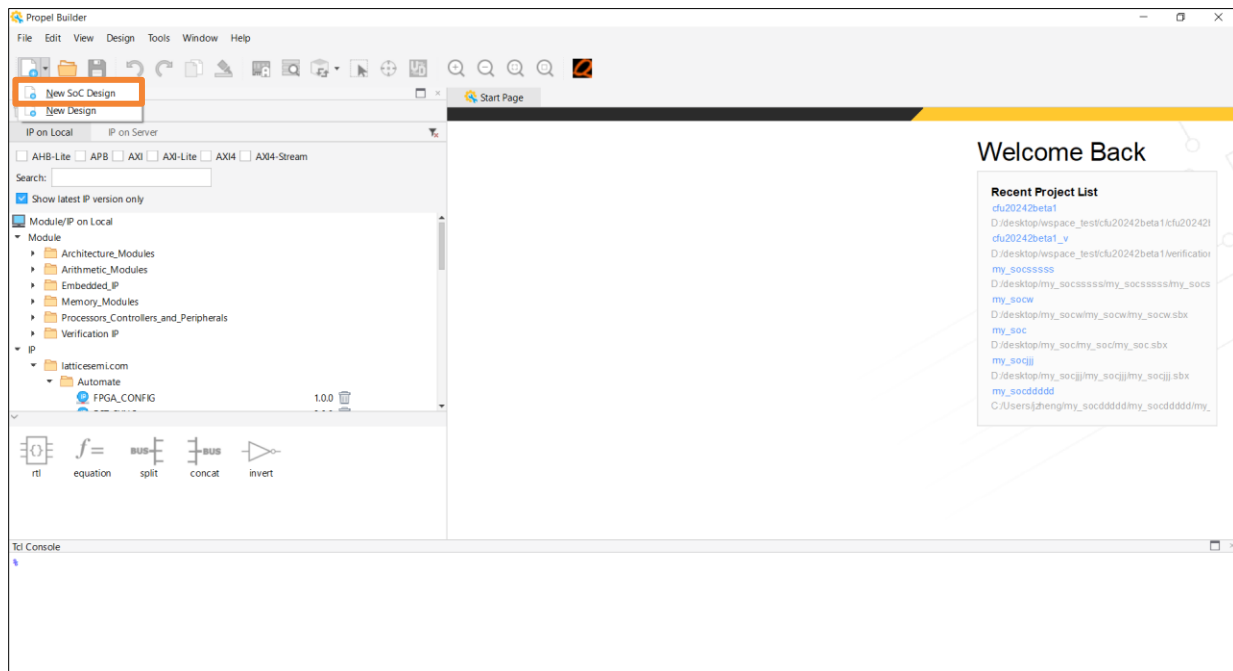
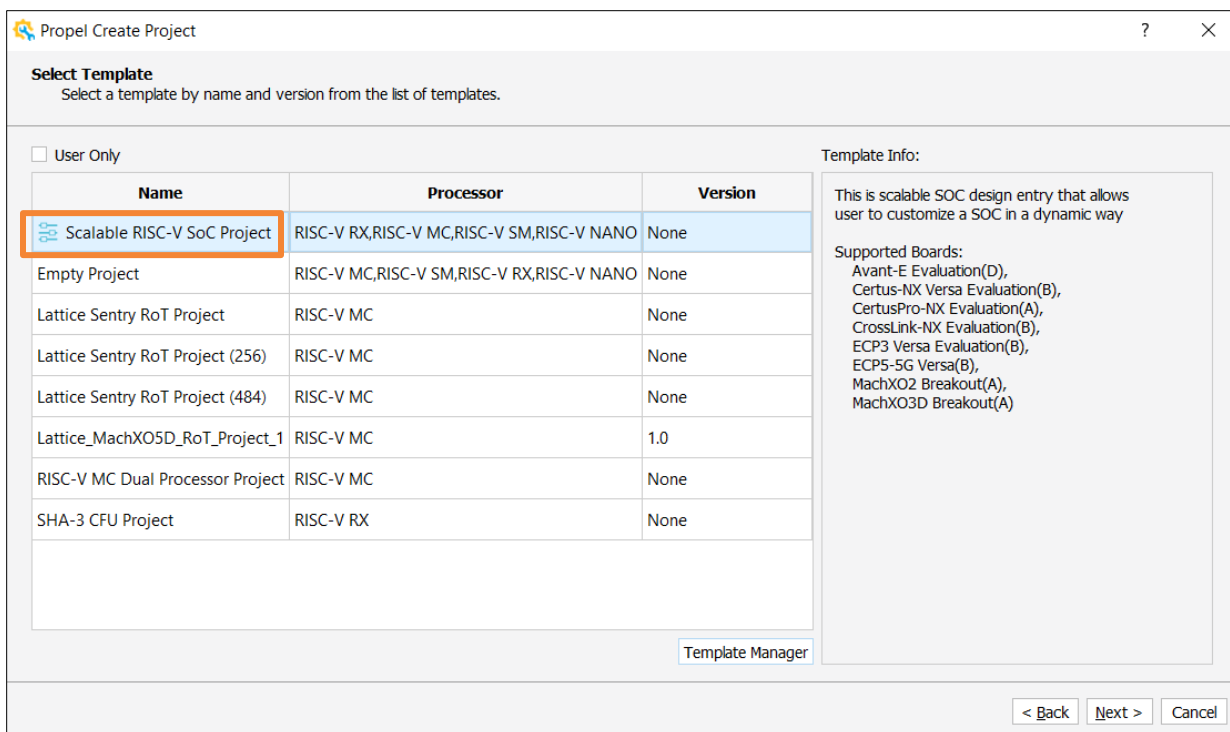

Figure 2.18. New Soc Design
Figure 2.19. Choose Scalable RISC-V SoC Project
1. In the Propel Builder GUI, choose **New SoC Design** (Figure 2.18) to open the **Propel Create Project** page. Choose **Scalable RISC-V SoC project**. Click **Next** (Figure 2.19).